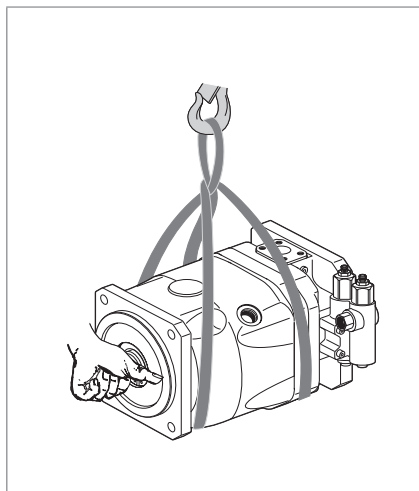

Abb. 11: Transport with lifting strap; example A10VZO
- ▶ Place the lifting strap around the axial piston unit in such a way that it does not pass over assembled parts (e.g. valves, piping) and that the axial piston unit is not suspended from assembled parts (see Abb. 11).